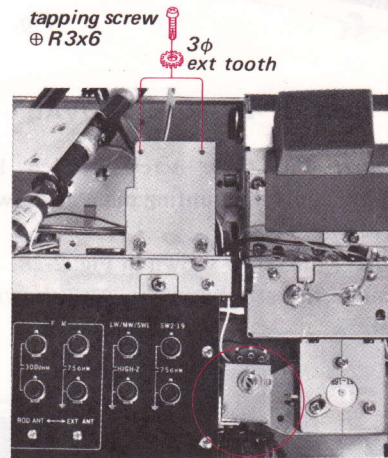
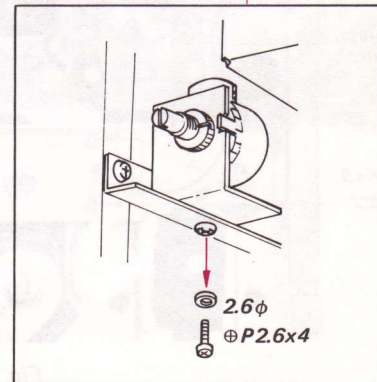

Fig. 2-23
Fig. 2-24
3. Remove the three screws as shown in Fig. 2-23 and Fig. 2-24.